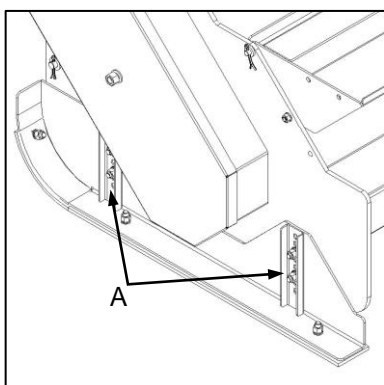

Fig. 6
- ✔ To set the working height of the implement, remove the side panel retaining bolts (Fig. 6-A) and adjust the position of the side panels as required. Ensure that the implement is level by selecting corresponding hole positions at all adjustment points.
- ✔ Om die werkshoogte van die implement te stel, verwyder die sypaneelklemboute (Fig. 6-A) en verstel die posisie van die sypaneel soos nodig. Verseker dat die implement waterpas is deur ooreenstemmende gatposisies by alle verstellingspunte te selekteer.